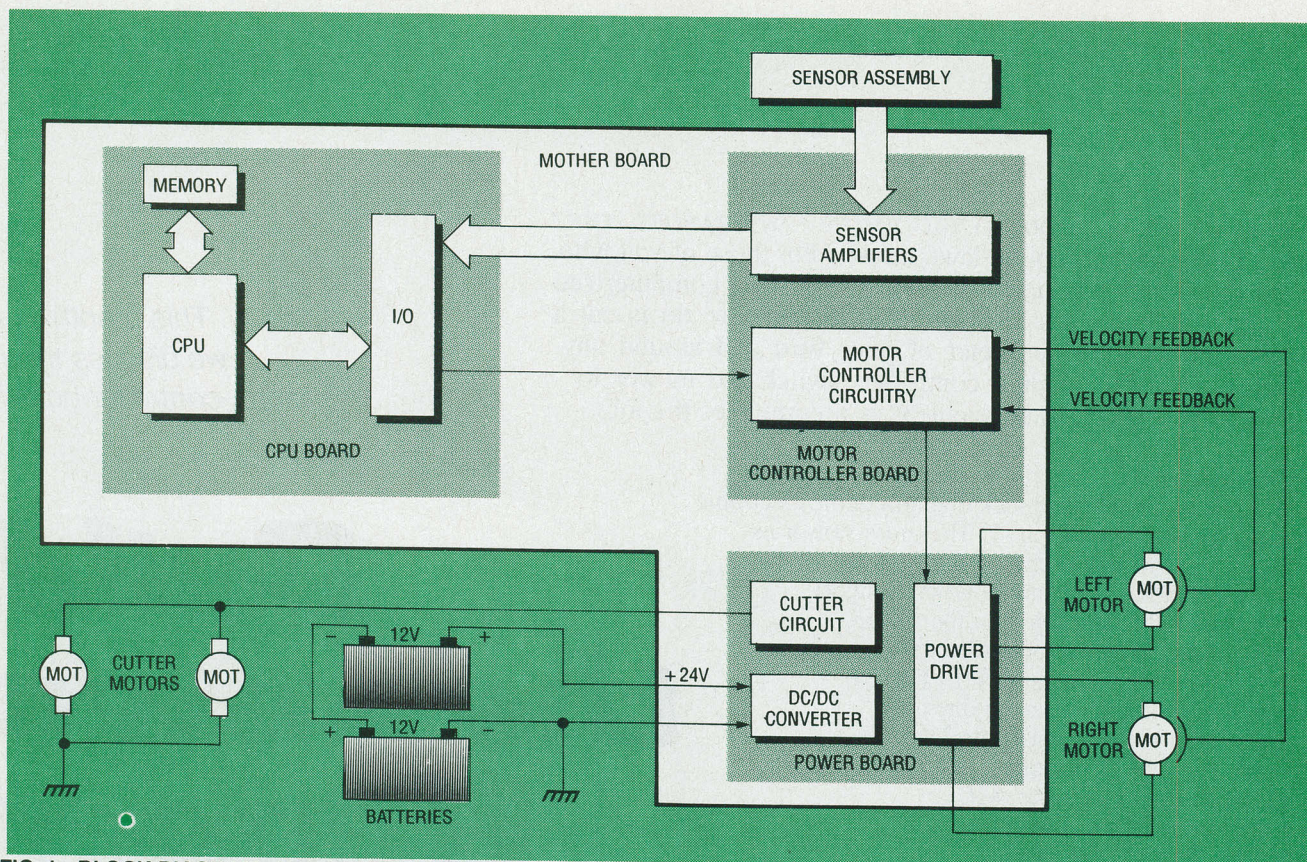

FIG. 1—BLOCK DIAGRAM of the electronic control system.
**FIG. 1—AN OMNIDIRECTIONAL** microphone, shown in (a), has uniform directional sensitivity to sound pressure  $P(\theta)$ ; the main axis is out the indicated. In (b) is shown a polar plot of directional sensitivity; the response is identical in any plane through the main axis.
Let's quickly review the block diagram of the electronic control system shown in Fig. 1. The grass-sensor assembly is used to detect the position of cut and uncut grass that lies beneath the Lawn Ranger. That information is amplified on the motor-controller board and then forwarded to the Central Processing Unit (CPU). The CPU will calculate the steering direction and send it to the motor-controller board. The motor-controller and power-switching circuitry will steer the robot in the direction defined by the CPU by varying the speed of the rear drive wheels. If the right wheel is made to spin faster than the left wheel, the robot will steer to the left—just as a tank works.